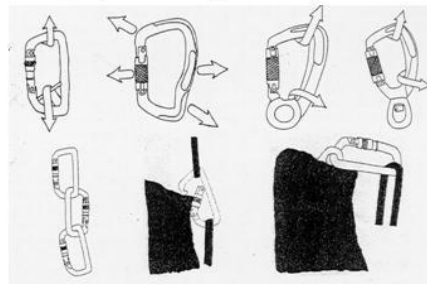

Fig 6.
- Ensure loads applied to carabiners are directed in the proper orientation. Proper and improper loading techniques are shown below in Fig. 6.